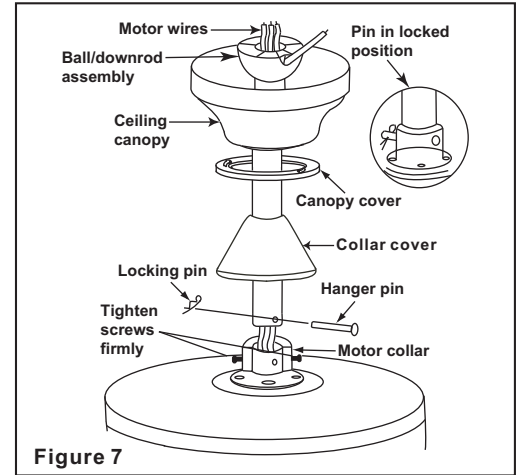

Figure 7
**Step 6.** Route wires exiting from the top of the fan motor through the collar cover, canopy cover, canopy and then through the ball / downrod. (Fig. 7)
**Step 7.** Align the holes at the bottom of the downrod with the holes in the collar on top of the motor housing (Fig. 7). Carefully insert the hanger pin through the holes in the collar and downrod. Be careful not to jam the pin against the wiring inside the downrod. Insert the locking pin through the hole near the end of the hanger pin until it snaps into its locked position, as noted in the circle inset of Fig. 7.
**Step 8.** Tighten two set screws on top of the fan motor firmly. (Figure 7)